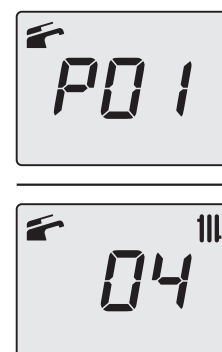

Figure 7.7
- 4 To enter the selected parameter press key "B" (Figure 7.4) for 1 second. The display will show the following (Figure 7.7).